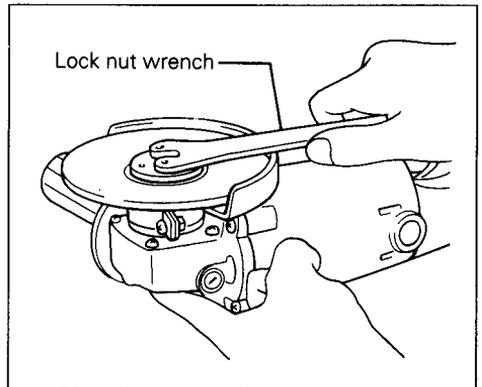

Fig. 2
4. To tighten the wheel lock nut, lock the shaft in place by depressing with your index finger the pin on the lower front of the tool so that it cannot rotate, then use the lock nut wrench and tighten firmly in clockwise direction. (Fig. 2)